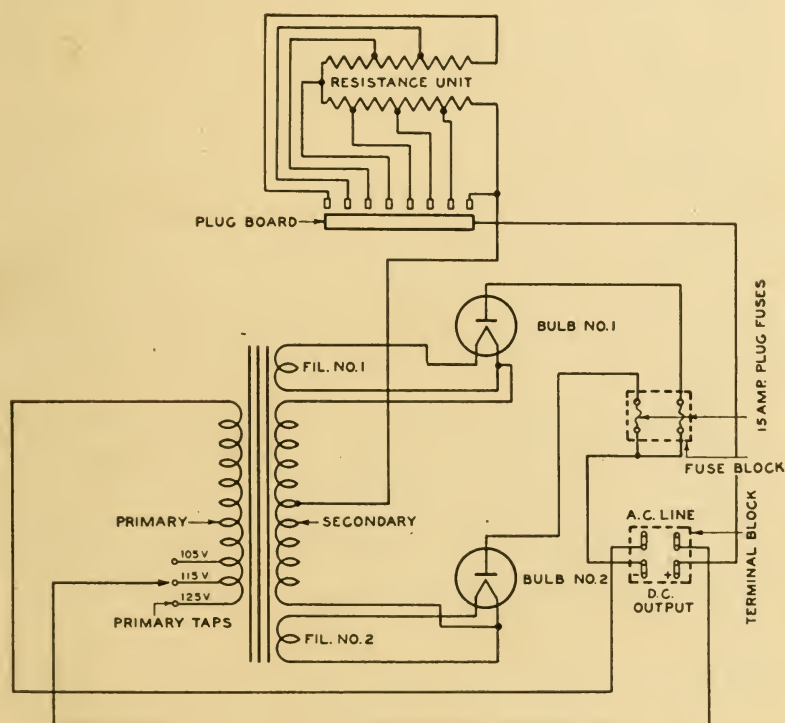
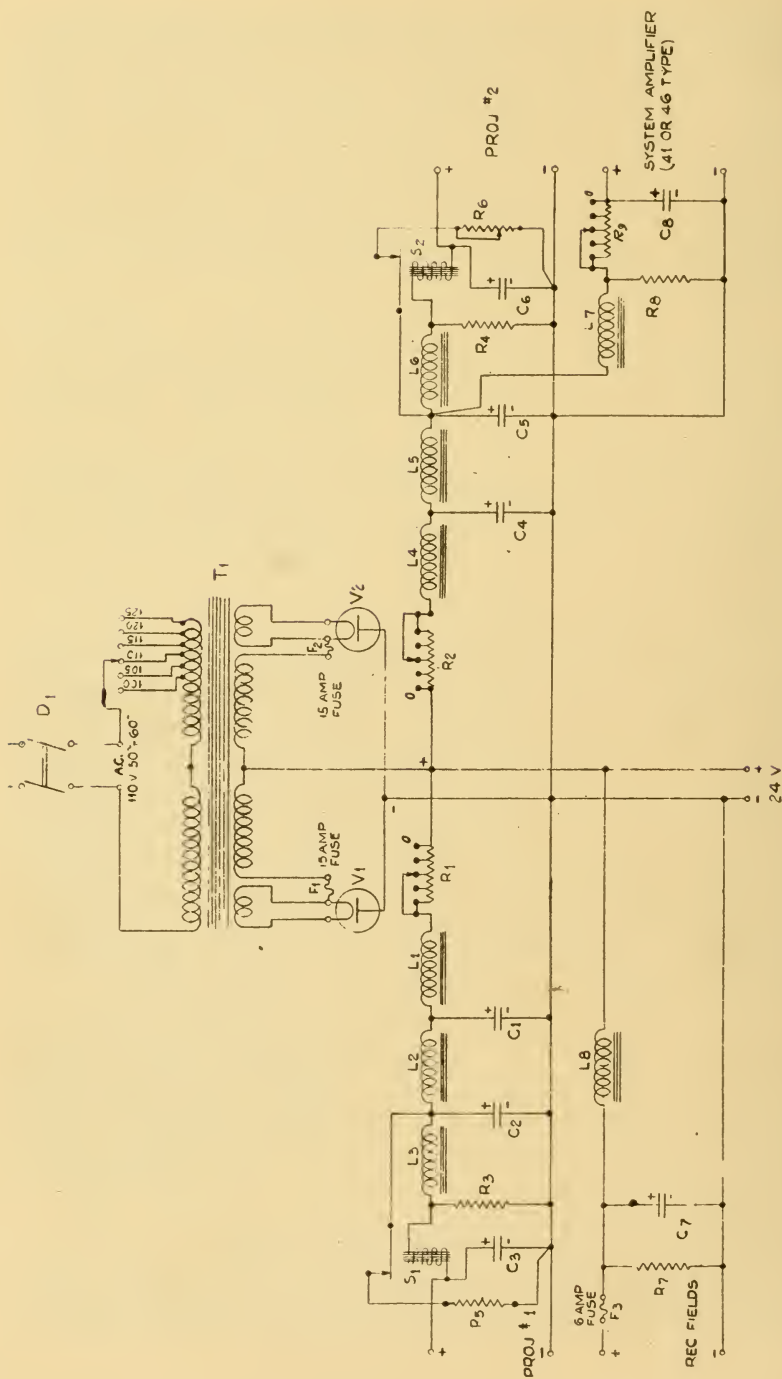

FIG. 114.—Type 40 G.E. Tungar Battery Charger.
FIG. 115. Tube-rectifier power unit supplying low-voltage DC.
- 22. Explain the circuits and action of a typical sound power supply rectifier (figure 115).
cally in Figure 114. We are now prepared to trace its circuit in detail and to study the action of its tubes.
#### FILAMENT CIRCUITS OF FIGURE 114
(14) In the center of Figure 114 are two circles, each containing an inverted "V" with a horizontal line above
(15) The type of rectifying tube shown in Figure 114 contains within its glass, but completely insulated from the filament, a plate of metal or carbon which is shown in the drawing by the horizontal line placed just above the filament of each tube.
(16) The plates of the rectifying tubes are in circuit with the middle, or plate secondary of the transformer. This secondary has a center-tap connection which divides
The complete circuit of Figure 114 is therefore a full-wave rectifier, consisting of two complete half-wave circuits so arranged that each rectifies one-half of the a. c. cycle.
(22) The schematic circuit of one such device is shown in Figure 115. It is an extremely simple circuit that the projectionist can trace without difficulty if he understands and remembers the battery charger circuit just considered, and the explanation of "brute force" filters given on Page 475.
The upper portion of Figure 115 is an ordinary full-wave rectifier, identical except in minor details with the
charger circuit of Figure 114. The transformer primary is adjustable between 110 and 125 volts. There are three secondaries, just as before. The rectifier tubes in this particular drawing are marked "V-1" and "V-2." The filaments are shown as inverted "U's" rather than as inverted "V's". The plate secondary of the transformer is tapped at the center, as in the charger. The real difference between Figures 114 and 115 lies in the d. c. circuits, after rectification has taken place; instead of a simple pair of d. c. output terminals, which are to be wired to a storage battery, Figure 115 shows the d. c. line branching into five parallel circuits, four of which are equipped with "brute force" filters.
To study Figure 115, look first (bottom center of drawing) at the terminals marked "24 volts, + and —." The positive wire runs directly up to the mid-tap of the secondary; the negative wire runs to the plates of the two tubes. Current, moving from negative to positive, flows from the filament of either tube to the plate of that tube, through the wire marked —, through the external load, back in at the wire marked +, and thence to the mid-point of the secondary. Thus the plates, while always negative with respect to the mid-point of the secondary, are alternately positive and negative with respect to their own filaments, precisely as in the case of the charger.
The circuit of Figure 115 is identical in principle to the
A rectifier such as that shown in Figures 115 and 116 requires very little attention. (25) The relay contacts of S-1 and S-2 should be burnished occasionally to insure that they make firm and solid connection.
(28) A short-circuited filter coil will cause hum; so will an open-circuited filter condenser. A short-circuited filter condenser will burn out the fuses F-1 and F-2, shown in Figure 115 alongside the tubes.
Tubes of either vacuum or mercury-vapor type can be omitted entirely, and the same work be performed by rectifying "stacks" or discs. Some circuit changes, however, would be needed if stacks were substituted for the tubes in Figure 115. The nature, operation and circuits of disc rectifiers are described on Page 287.